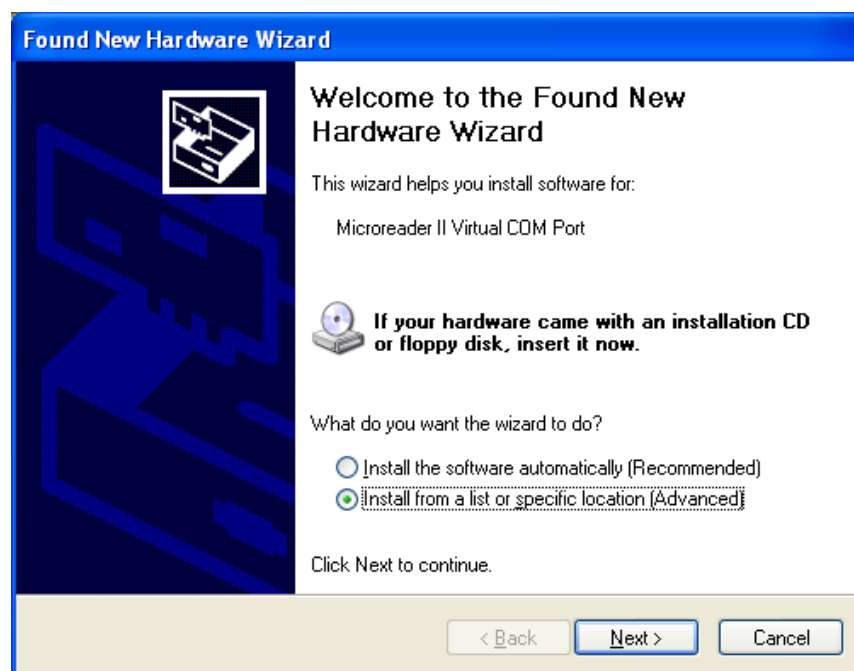

Figure 6. New Hardware Wizard, Step 2
2. When the window shown in Figure 6 is displayed, click "Install from a list or Specific location" and then click Next.